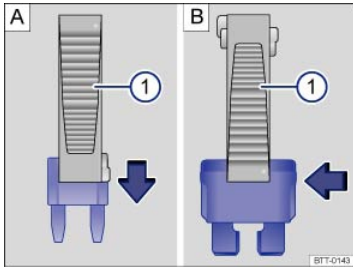

Fig. 221 Removing or inserting a fuse.
- If needed, remove the plastic tweezers ⇒ Fig. 221 from the fuse box cover.
- For *small fuses*, slide the tweezers onto the fuse from the top ⇒ Fig. 221 A.
- For *larger fuses*, slide the tweezers onto the fuse from the side ⇒ Fig. 221 B.